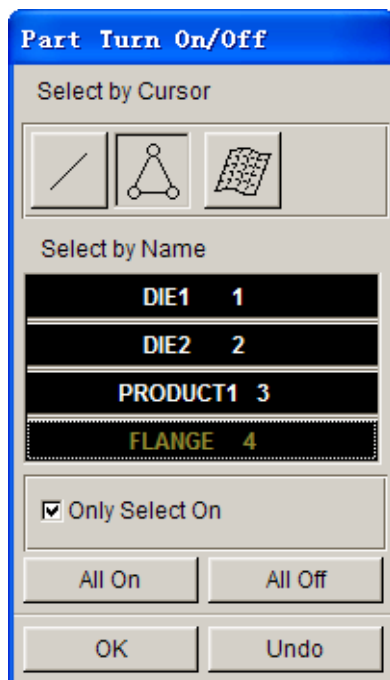

Figure 1.10: Only open FLANGE
4. Product after flanging that is composed of PRODUCT1 and FLANGE. Part FLANGE is the flanging part. See figure 1.10~1.13.